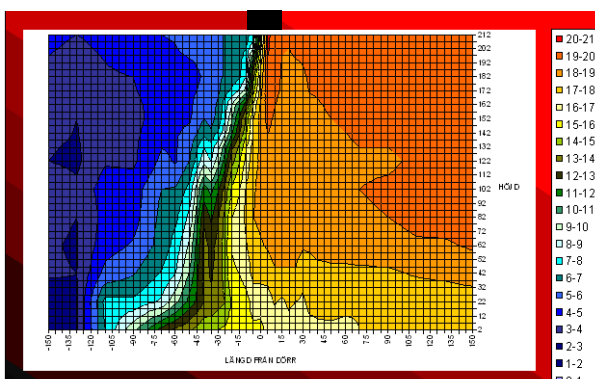

Fig. 3
- Fig. 3 shows the effect when an air curtain is used with incorrect outlet angle,